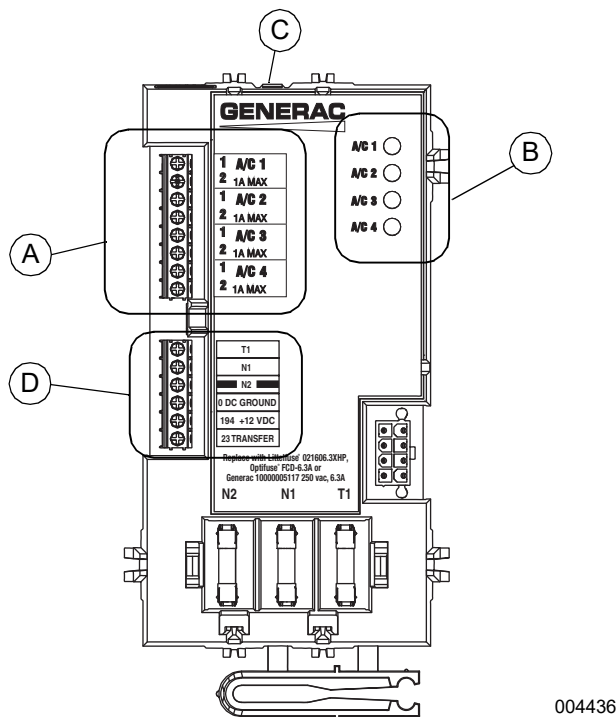

Figure 2-3. Smart A/C Module (SACM)
See Figure 2-3. Priorities A/C 1-4 (A) have connections for an air conditioner. To control an air conditioner, no additional equipment is required. Internal normally closed relays interrupt the 24 VAC thermostat control signal to disable the air conditioner load.